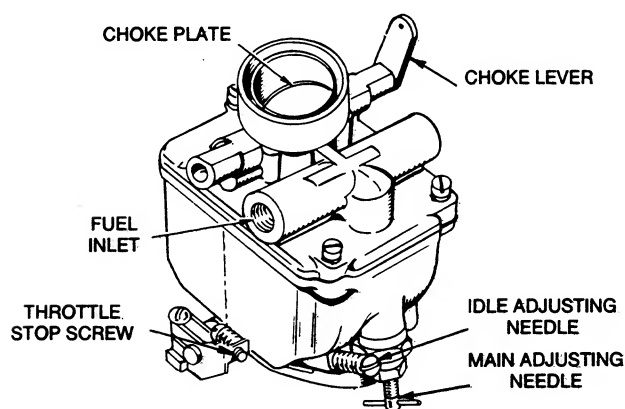

FIGURE 6. CARBURETOR ADJUSTMENTS
1. Turn both mixture screws (Figure 6) in until lightly seated, then back the idle mixture screw out 1-1/8 turns and the main mixture screw out 1-1/4 turns.